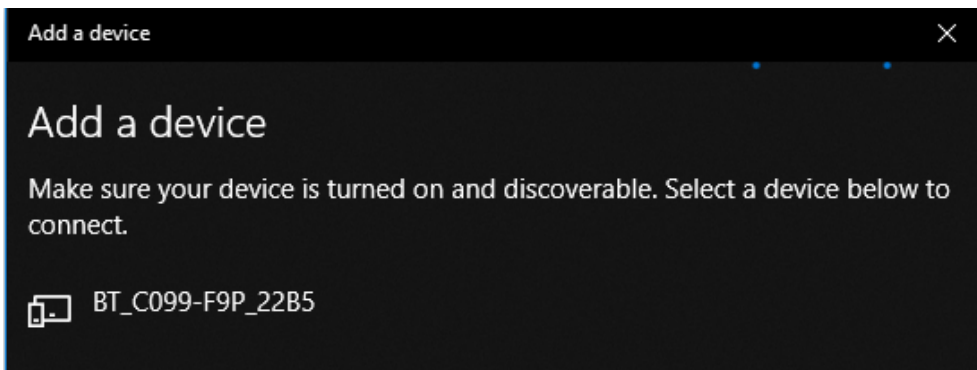

Figure 20: Windows 10 menu for adding a Bluetooth device
- Next, perform a Bluetooth scan to find the C099-F9P board. Every C099-F9P has a predefined, unique Bluetooth name in `BT_C099-F9P_XYZW` format as shown in Figure 20.